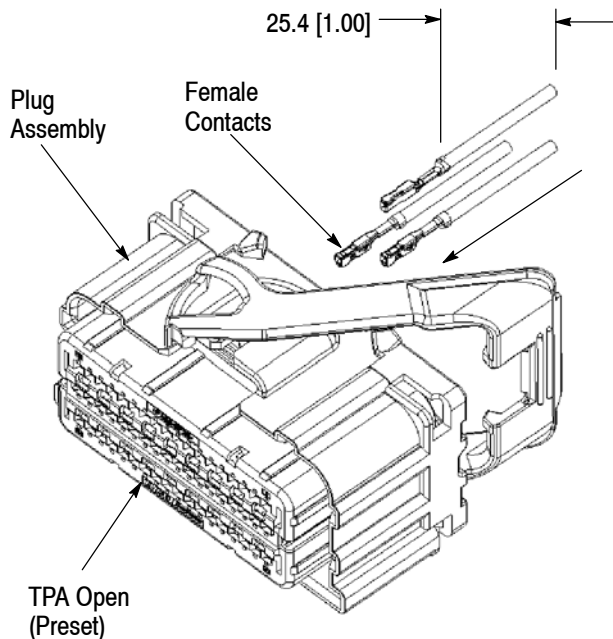

Figure 2
Check to be sure that the TPA device is in the open (pre-set) position (See Figure 2). If the TPA is closed (fully seated position), refer to Paragraph 4.3, Contact Removal, Steps 1 and 2. Proceed as follows:
1. Insert a terminated contact by grasping the wire approximately 33 mm [1.3 in.] behind the insulation crimp and pushing it straight into the appropriate circuit cavity until it stops. Refer to Figure 2.